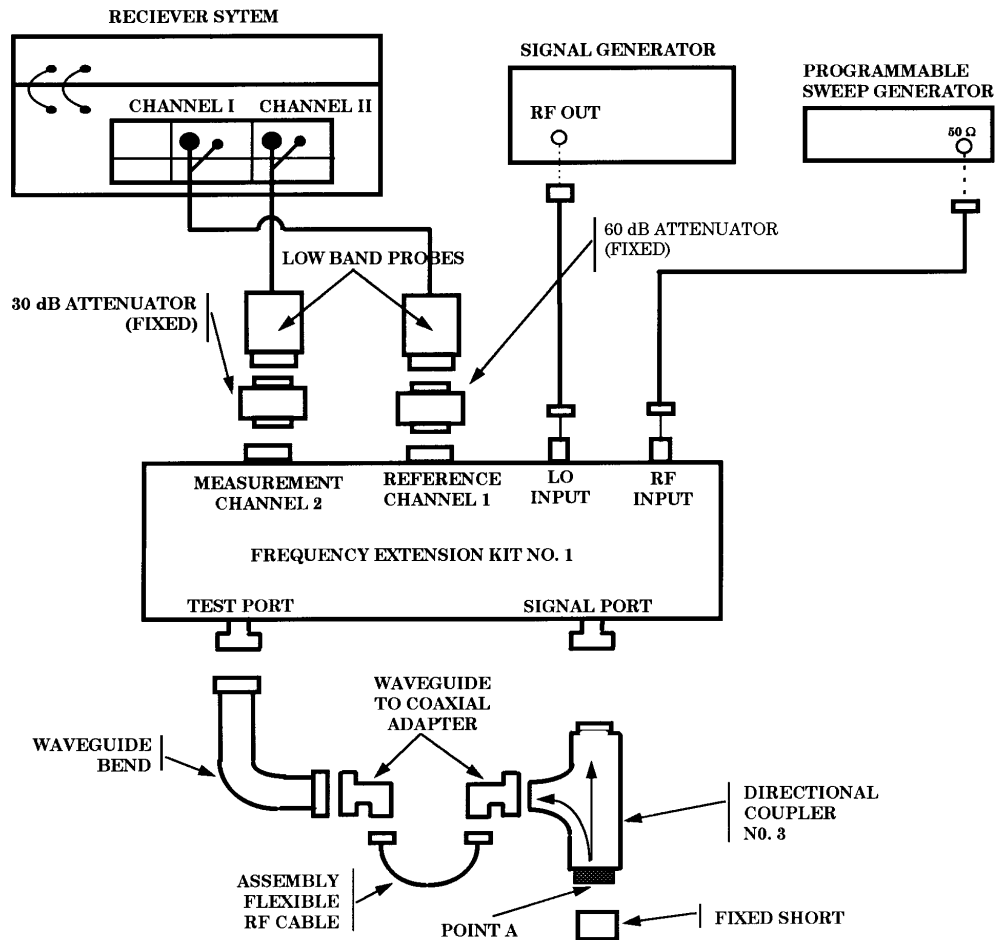
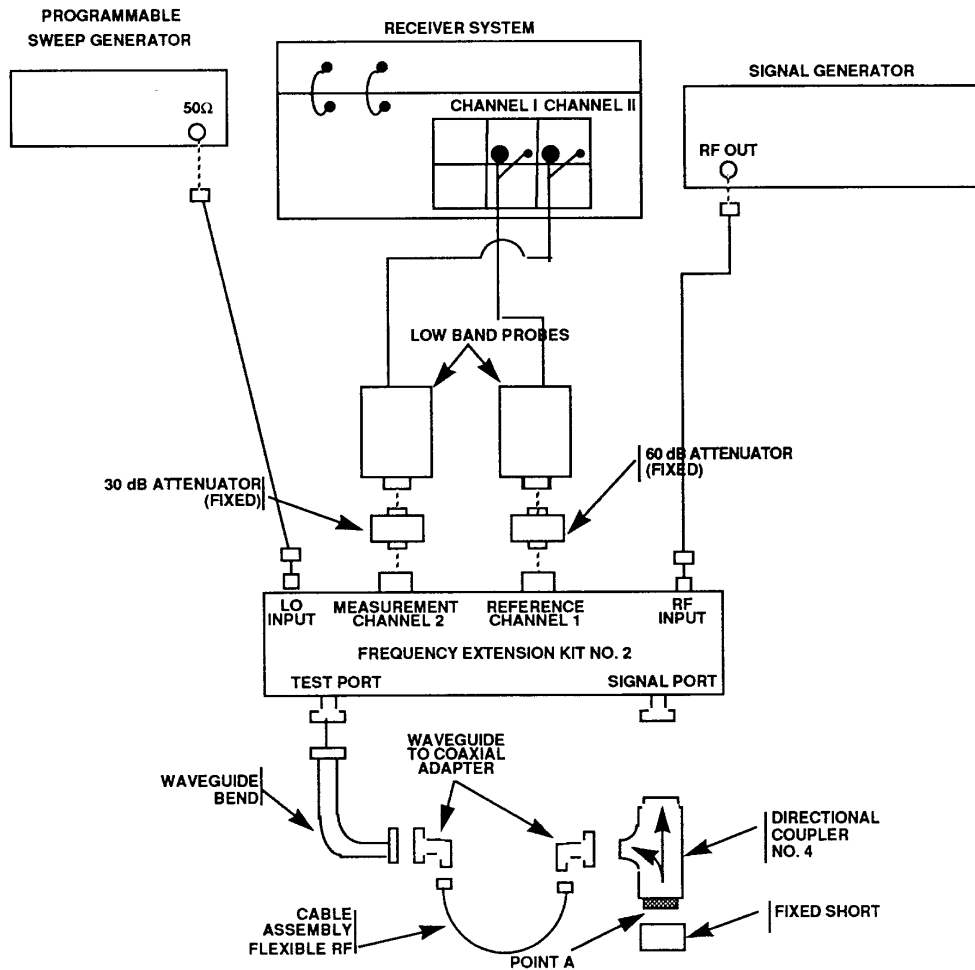

Figure 5. VSWR waveguide (18 to 26 GHz) - equipment setup.
Figure 6. VSWR waveguide (26.5 to 40 GHz)
(33) Repeat technique of (29) through (32) above 2 more times and average values.
(34) Determine VSWR using appendix B. VSWR will be within the limits listed in appendix A.
(35) Repeat technique of (26) through (34) above for remaining cardinal test point frequencies determined in **7c** above.
(36) Connect equipment as shown in figure 5 and allow equipment to warm up for 3 hours.
(37) Adjust programmable sweep generator CW-F1 frequency controls to first cardinal test point frequency determined in **7c** above.
(38) Adjust programmable sweep generator **LEVEL** output controls for +3 dBm.
(39) Determine signal generator frequency (LO) required for the desired measurement by calculating the following equation:
(42) Disconnect fixed short from equipment setup in figure 5.
(43) Zero power meter No. 1 and connect TI to directional coupler No. 3, point A (fig. 5). Record receiver system readout indication as return loss.
(44) Remove TI from directional coupler and connect fixed short to directional coupler No. 3, point A (fig. 5).
(45) Repeat (41) through (44) two more times and average values recorded in (43) above. Determine VSWR using appendix B. VSWR will be within the limits listed in appendix A.
(46) Repeat technique of (37) through (45) above for remaining cardinal test point frequencies recorded in **7c** above.
(47) Connect equipment as shown in figure 6 and allow equipment to warm up for 3 hours.
(48) Refer to cardinal test point frequencies determined in **7c** above. Record these values.
(54) Disconnect fixed short from directional coupler No. 4 (fig. 6).
(55) Zero power meter No. 1 and connect TI to directional coupler No. 4, point A (fig. 6). Record receiver system indication as return loss.
(56) Remove TI from directional coupler No. 4 and connect fixed short to directional coupler No. 4, point A (fig. 6).
(57) Repeat technique of (53) through (56) above two more times and average values recorded in (55) above. Determine VSWR using appendix B. VSWR will be within the limits listed in appendix A.
(58) Repeat (49) through (58) for remaining cardinal test point frequencies recorded in (48) above.